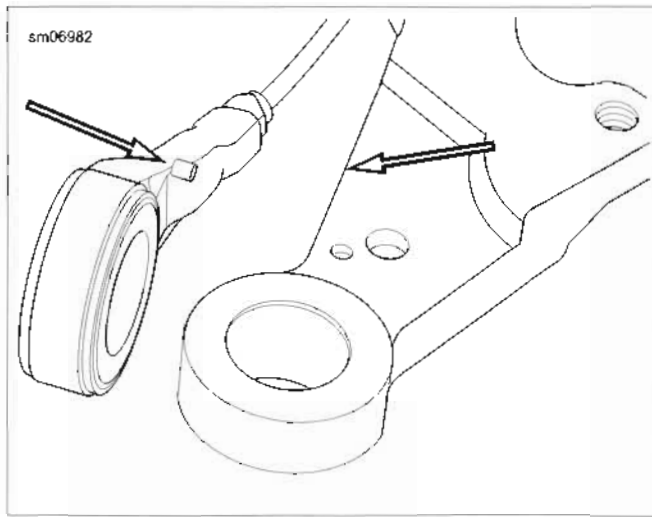

Figure 7-96. Rear Wheel Speed Sensor Index Pin (ABS Equipped)
1. See 2.5 REAR WHEEL and Figure 7-96. Install axle with new rear wheel speed sensor in place. Make sure index pin is pointed outboard toward rear fork. Rotate wheel speed sensor so that the index pin is against the lower edge of the rear caliper mounting bracket.